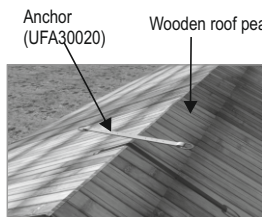

Fig. 1- Wooden roof structure on to which anchor is to be installed.
STEP 1: Place the anchor plate to match the surface it will be mounted on, either a roof peak or flat surface. Ref fig.1.